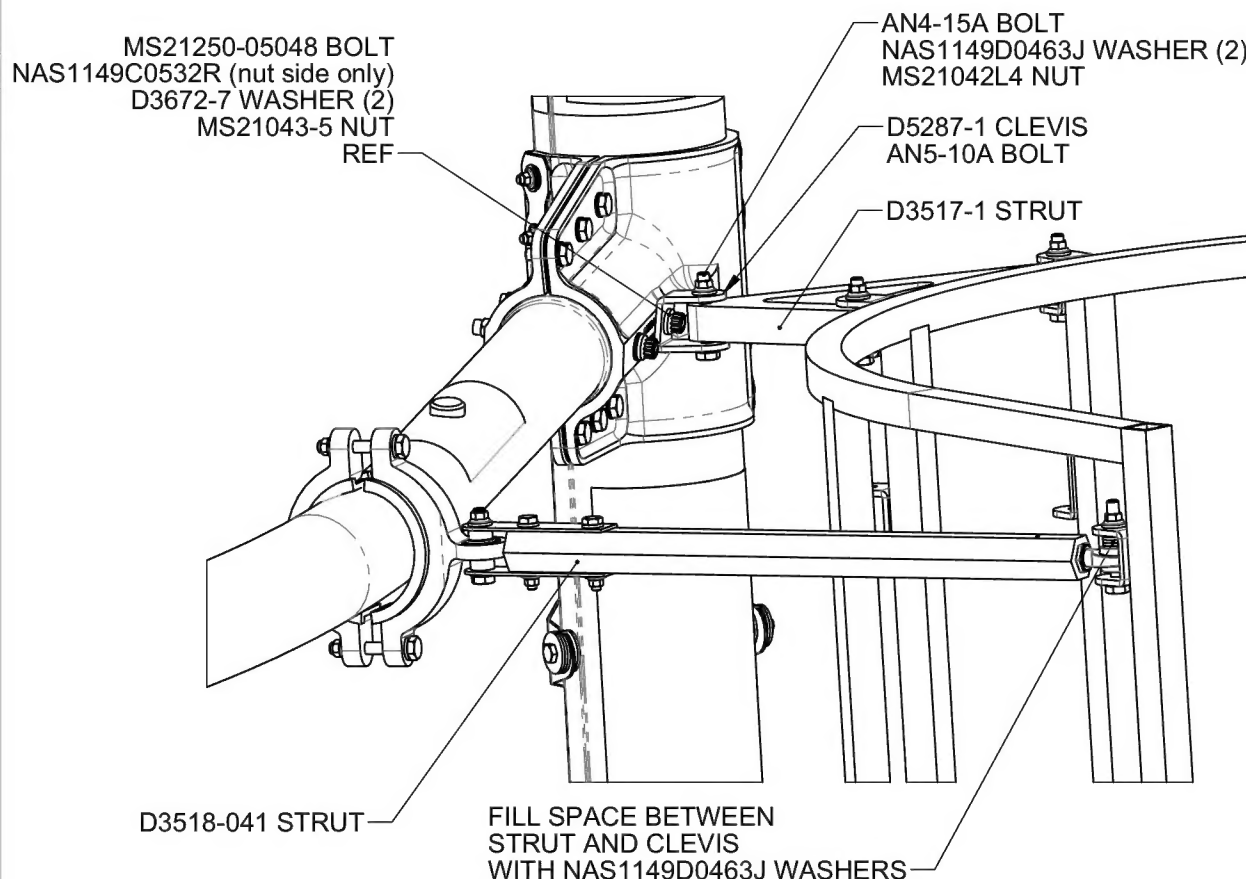
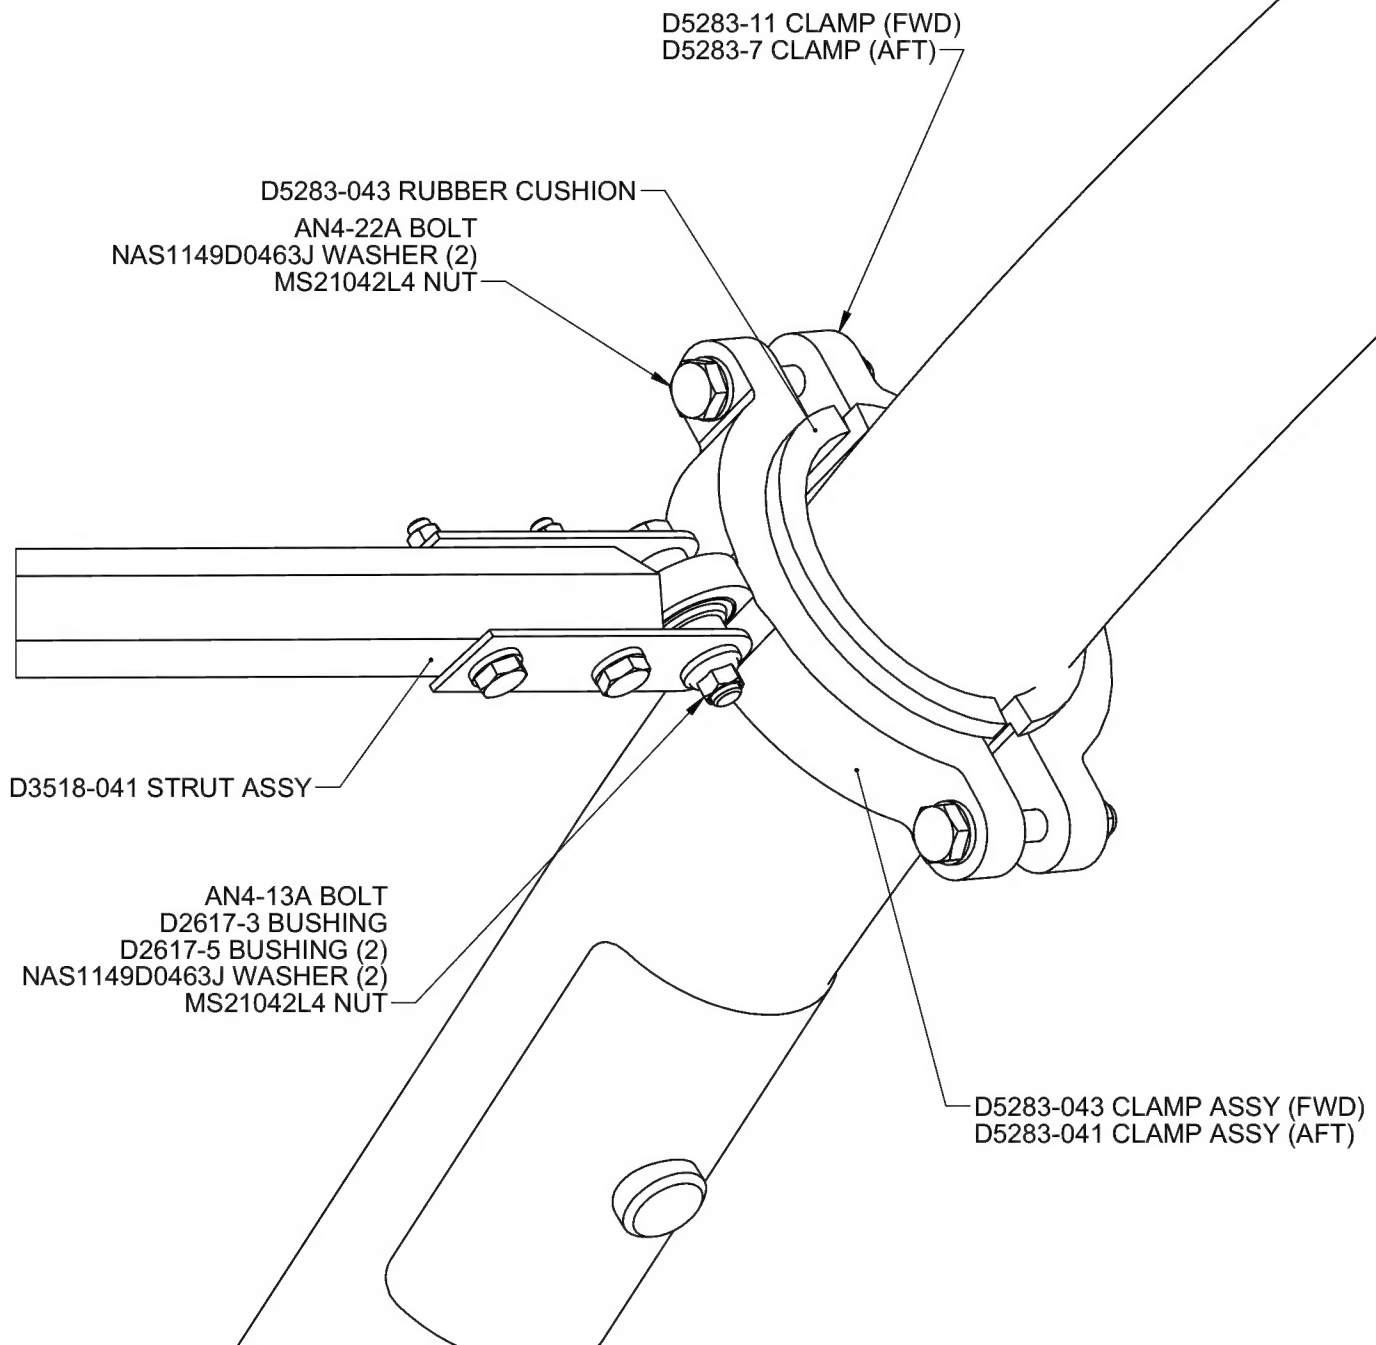

FIGURE 1: CLEVIS/STRUT INSTALLATION
FIGURE 2: CLAMP INSTALLATION
The D119-756-011 Clamp Kit is replaced with the D119-756-111 Clamp Kit (D5283-041/-7/-043/-11 Clamps). The modified parts list for Installation Instructions IIN-D119-756 and Instructions for Continued Airworthiness ICA-D119-756 are shown on sheet 4 of this service instruction. Install the Clamp Kit as shown in Figures 1, 2 and 3 of this service instruction.
The DSI 9729-011 Clevis Kit replaces the D3516-11 Clevis and D3520-3 Spacer mounted on Dart Skidtube saddles. The modified parts list for Installation Instructions IIN-D119-756 and Instructions for Continued Airworthiness ICA-D119-756 are shown on sheet 4 of this service instruction. Install the Clevis Kit as shown in Figure 1 of this service instruction.
- Remove the bottom MS21250-05048 bolt, NAS1149C0532R (2) washers, D3672-7 (2) phenolic washers and MS21043-5 nut on each saddle. Discard one NAS1149C0532R washer. Install qty (2) D5287-1 Clevis using the retained fasteners as per Figure 1. Assemble with the D3672-7 phenolic washer between the Clevis and the Saddle.
4. Install a D3518-041 Strut Assembly to each of the D5283-041 and -043 Clamps as show in Figure 2.
NOTE: The AFT clevises on the bottom of the basket have been oversized to accomodate variations between landing gear. Use NAS1149D0463J Washers as spacers to fill the space as shown in Figure 1. Mount qty (2) D3517-1 Struts to the basket as shown in Figure 1.
5. Mount the D3517-1 Struts assembled on the basket to the D5287-1 Clevis mounted on the Skidtube saddles and secure using AN4-12A Bolts, NAS1149D0463 Washers (2) and MS21042L4 Nuts.
6. Pivot the Basket upwards and attach it to the qty (2) D3518-041 Strut Assemblies using AN4-15A Bolts, NAS1149D0463J Washers (2) and MS21042L4 Nuts for each Strut. See Figures 2 and 3.